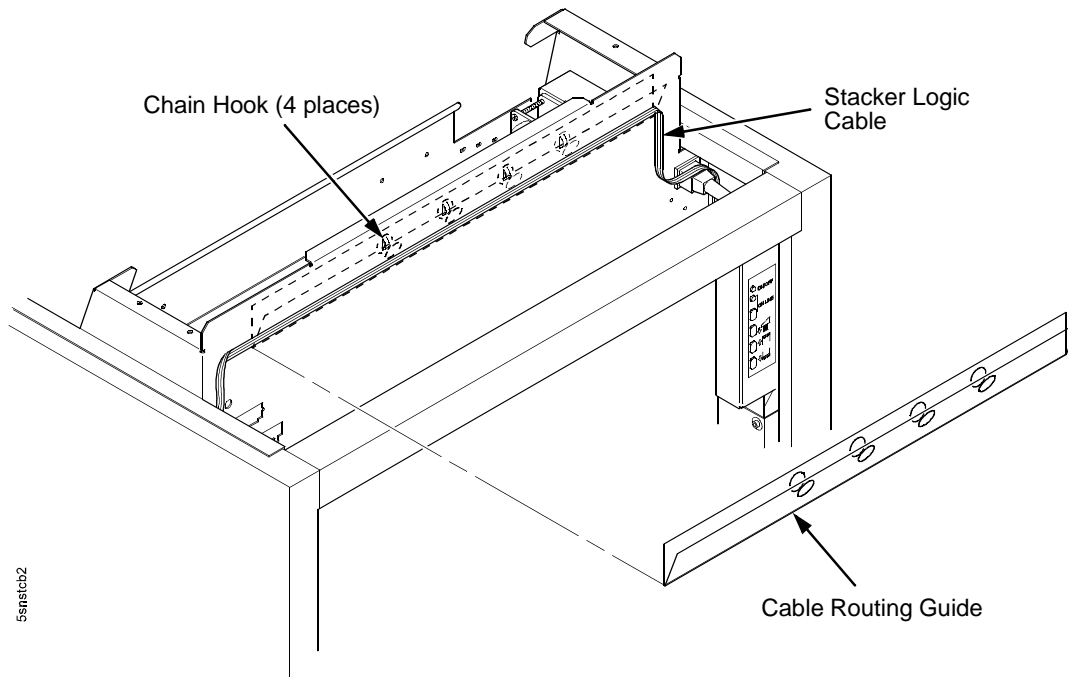

Figure 73. Installing the Cable Routing Guide
10. Route the stacker logic cable straight through the cable routing guide, making sure that it is not twisted. (Figure 73.)
11. Position the cable routing guide so that the four chain hooks protrude through the holes in the guide. (Figure 73.)